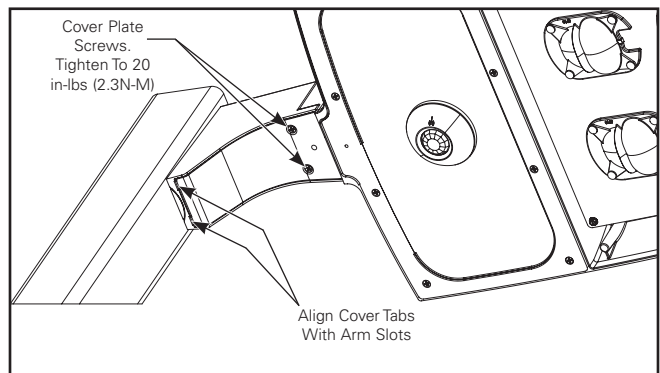

Figure 5.
5. Install arm cover and tighten (2) Philips head screws to 20 in-lbs. (2.3 N-M). As shown in (Figure 5).